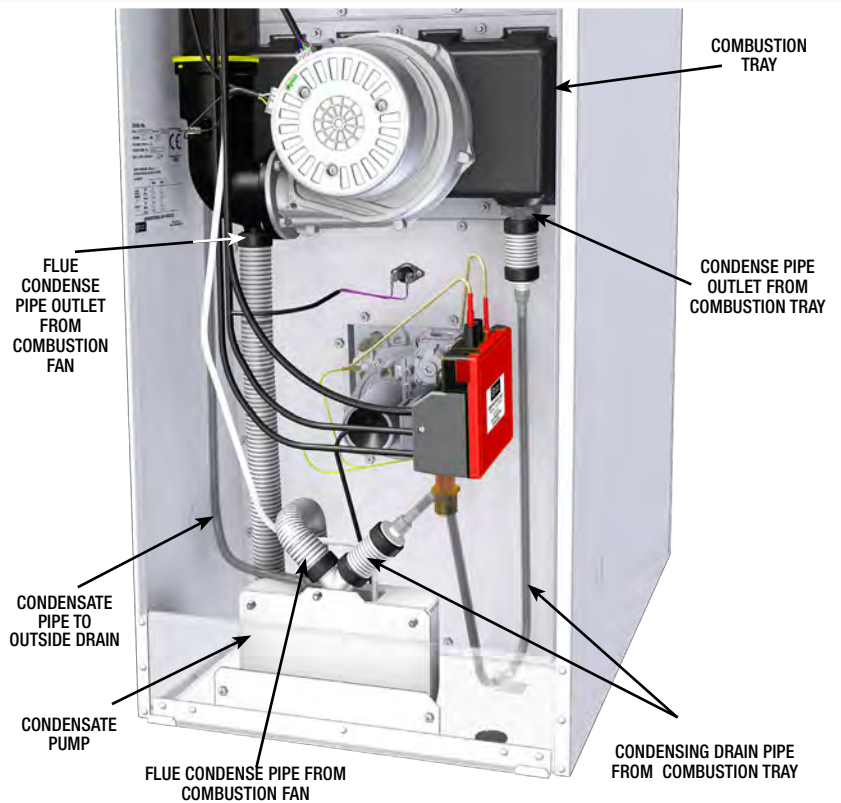

FIGURE 25. CONDENSATE PIPEWORK LAYOUT
- 16.9.1 Refer to section 16.3. See Figure 25.
- 16.10.1 Refer to section 16.3. See Figure 25.